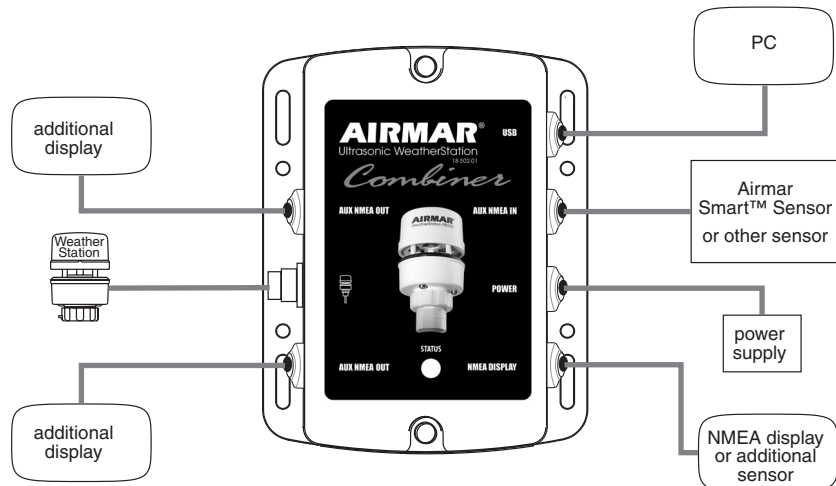
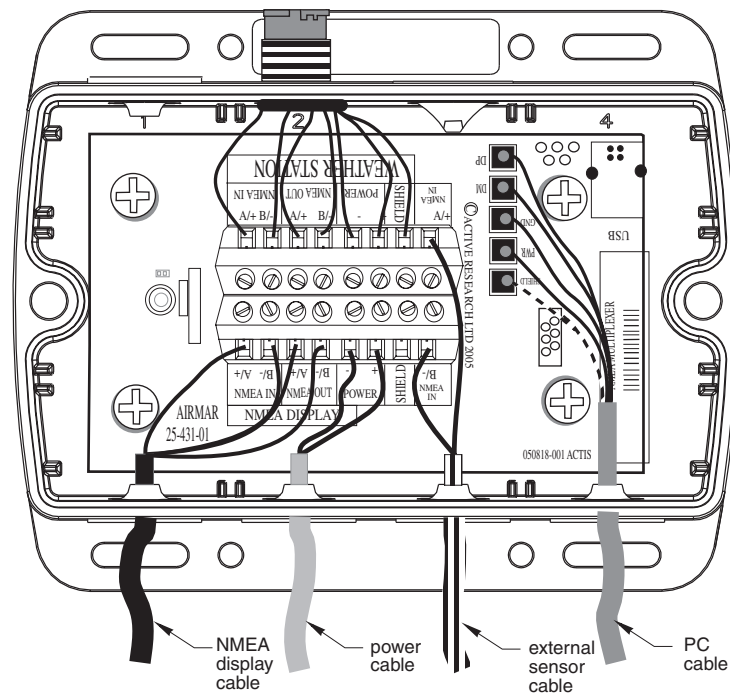

Figure 7. Combiner installation
Figure 11. Wiring an external sensor to a Combiner
The Combiner allows the WeatherStation data to be displayed simultaneously on both an NMEA display and a PC. On the Combiner, the two auxiliary grommets labeled AUX NMEA OUT can be used to connect additional devices capable of displaying WeatherStation data (see Figure 7). All display devices *must* be NMEA 0183.
To wire a device through the AUX NMEA IN grommet, use the NMEA IN terminals on the printed circuit board (see Figure 11).
3. Remove the cover of the Combiner to expose the terminals inside (see Figure 11). Using a small Phillips screwdriver, puncture the grommet that corresponds to AUX NMEA IN on the cover (see Figure 7). *Be careful* not to damage the circuit board.
4. Push approximately 200mm (8") of the cable through the grommet (see Figure 11).
4. Using a small Phillips screwdriver, puncture the grommet(s) that corresponds to AUX NMEA OUT on the cover (see Figure 7). Be careful not to damage the circuit board.